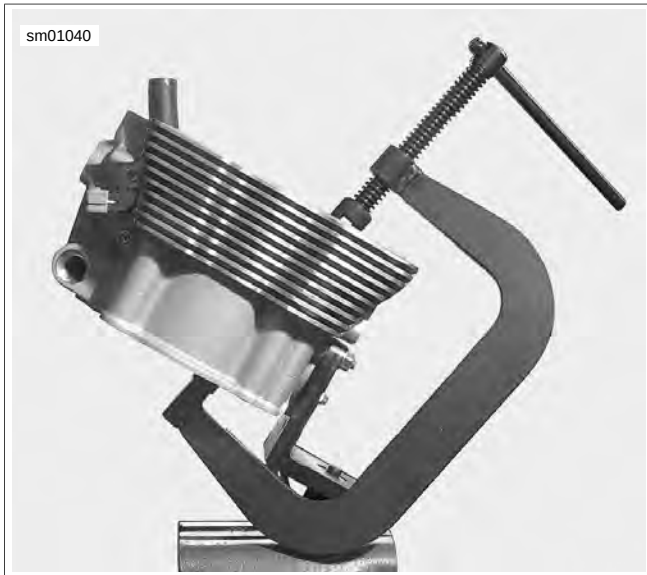

Figure 3-59. Valve Spring Compressor
2. See Figure 3-59. Install VALVE SPRING COMPRESSOR (Part No. HD-34736-B). Remove valves, springs and keepers. Keep removed parts organized so they will be assembled in same position.